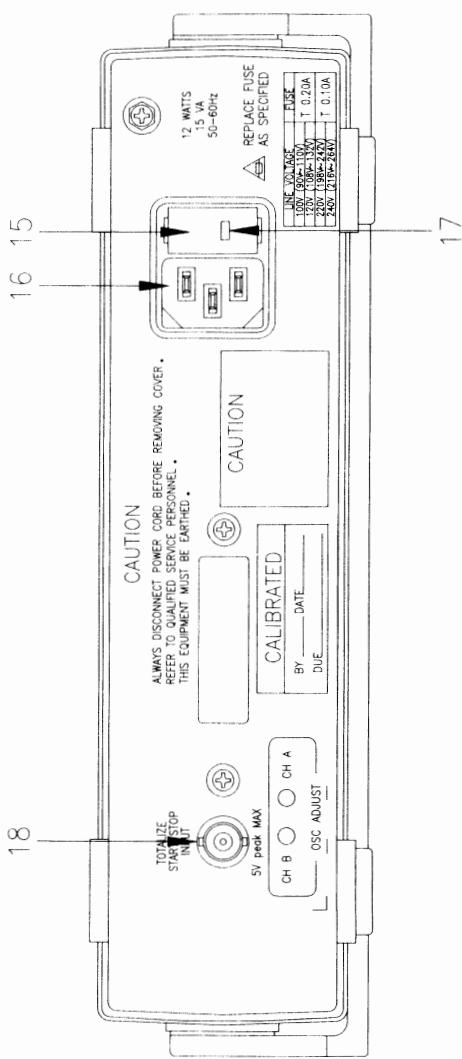

Figure 2-1 Rear Panel (1.3 GHz/crystal version)
- REAR PANEL.** Refer to Fig. 2-1, 2-2, 2-3.